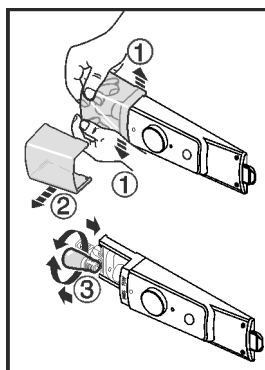

Fig. 3
- ▶ Push the lamp cover in and apart at the front Fig. 3 (1), and remove to the side Fig. 3 (2) as shown in the illustration.
- ▶ Replace the lamp. Fig. 3 (3)